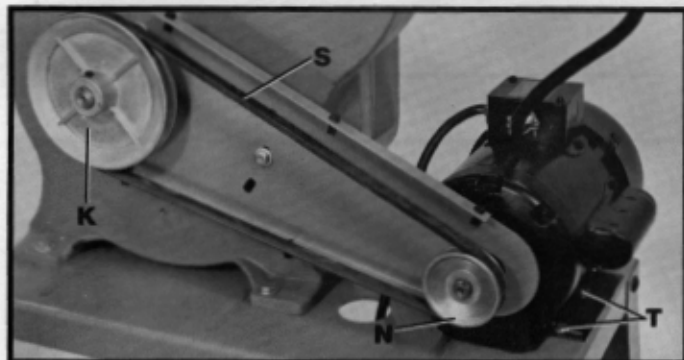

Fig. 20
7. Assemble drive belt (S) Fig. 20 to the arbor pulley and motor pulley as shown. Using a straight edge, check to see if the arbor pulley (K) and the motor pulley (N) are aligned. If an adjustment is necessary, both pulleys can be moved in or out to obtain proper alignment. Adjust for proper belt tension by moving the motor in or out by loosening four mounting bolts, two of which are shown at (T). Correct belt tension is obtained when there is approximately 1/2 inch deflection at the center span of the belt (S) Fig. 20, using light finger pressure. NOTE: When proper belt tension is obtained and both pulleys are aligned, make certain to tighten all mounting hardware.